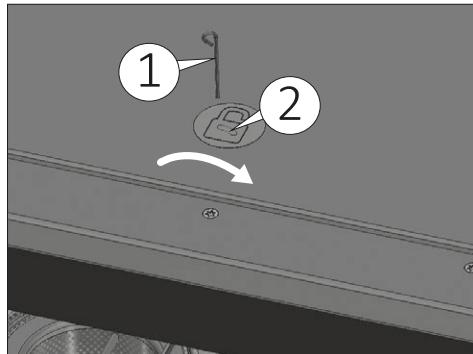

Fig. 13
- 1) Push the key supplied in the pack vertically into the hole on the worktop of the machine (1 Fig. 13), to position the key correctly, follow the position indicated by the padlock hole on the sticker (2 Fig 13).